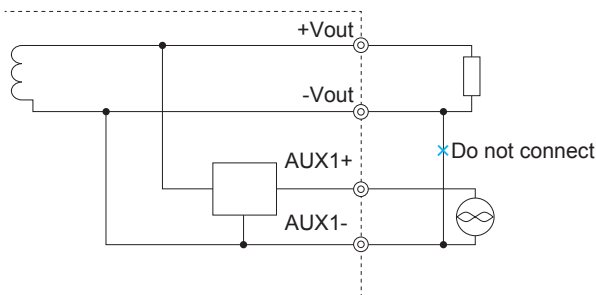

Fig.6.4 When using AUX1
- Do not connect AUX1- to -Vout as current may flow through AUX1 (fig 6.4).